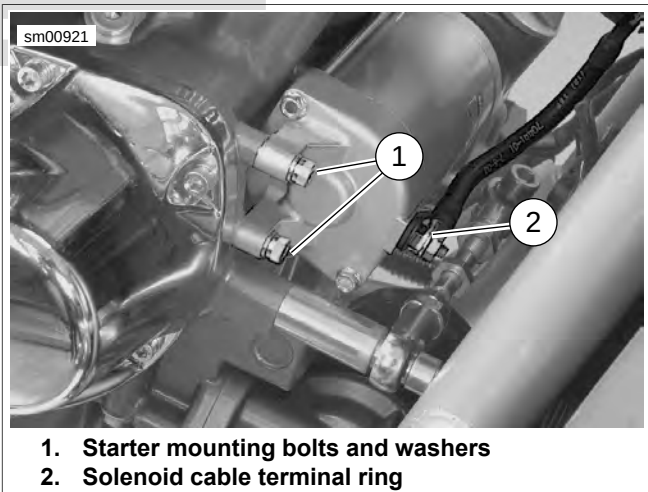

Figure 7-10. Starter (protective boot removed)
3. See Figure 7-10. Install the two starter mounting bolts and washers (1). Alternately tighten the bolts to 9.8 Nm (86.7 in-lbs).
4. Slide solenoid cable terminal ring (2) over starter post. Thread on and tighten hex-nut to 6-10 Nm (53-88 in-lbs).